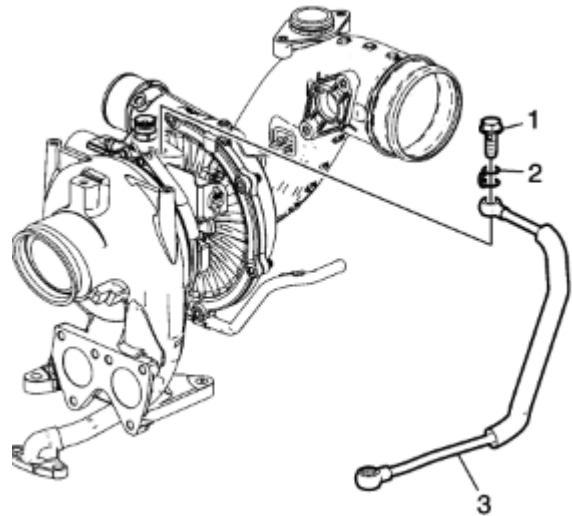

Fig. 112: Turbocharger oil feed pipe installation
- b. Install the turbocharger oil feed pipe (item 3 in figure 112). Install the oil feed banjo bolt (item 1 in figure 112) and washers. Torque the banjo bolt to 26 ft-lb.